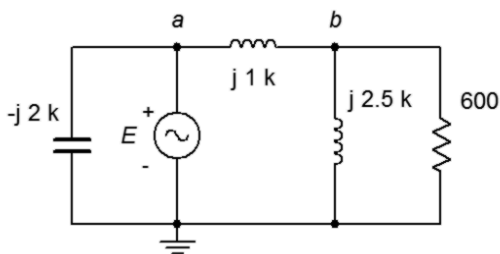

Figure 5.22
43. For the circuit of Figure 5.22, determine the Thévenin and Norton equivalents that drive the 600 Ω resistor if the source $E = 12\angle0^\circ$.
44. Given the circuit of Figure 5.22, determine the Thévenin equivalent that drives the $j1\text{ k}\Omega$ inductive reactance if $E = 9\angle0^\circ$.
45. Given the circuit of Figure 5.22, determine the Norton equivalent that drives the $j2.5\text{ k}\Omega$ inductive reactance if $E = 24\angle45^\circ$.
46. Use Thévenin's Theorem to find v_b in the circuit of Figure 5.22 if $E = 18\angle0^\circ$.
74. Consider the $600\ \Omega$ resistor to be the load in Figure 5.22. Determine a new value for the load in order to achieve maximum load power. Also determine the maximum load power.